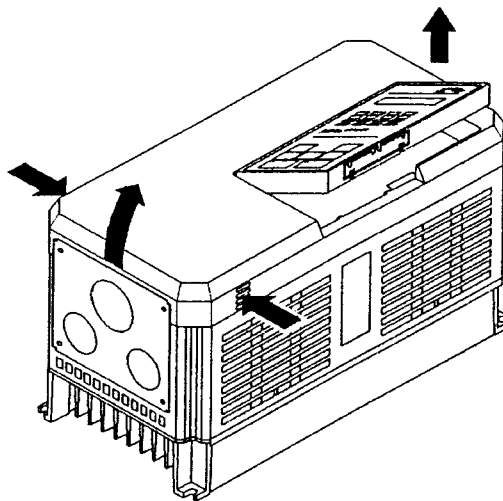

Figure 1.5
11. Remove the drive cover. For Models 2003-FVG+ through 2033-FVG+ and 4001-FVG+ through 4014-FVG+, push in the two squeeze spots located on the top rim of the enclosure and lift the cover as shown in Figure 1.5. On larger size drives, the cover is attached with screws.